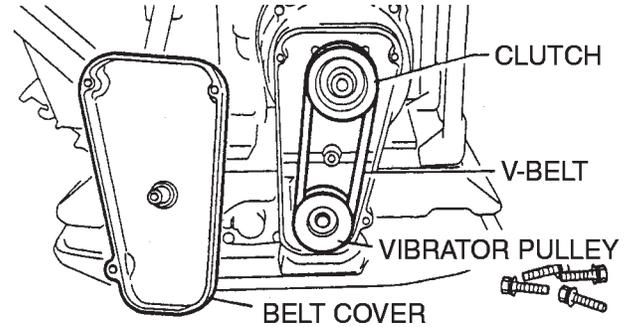

Figure 20. V-Belt Check
1. After 200 hours of operation, remove the belt cover to check the V-belt tension (Figure 20). Tension is proper if the belt bends about 10 mm when depressed strongly with finger between shafts. Loose or worn V-belts reduces power transmission efficiency, causing weak compaction and reduces the life of the belt itself.